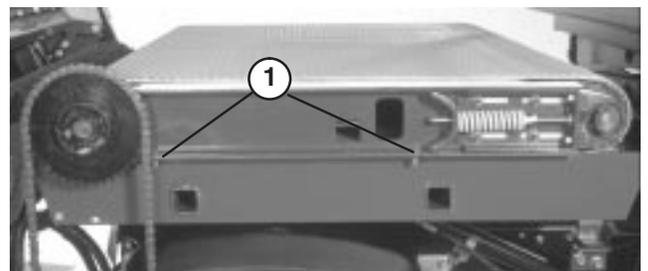

Figure 27
6. Loosen (2) capscrews, washers and nut, on right side of machine, securing slider bed to frame (Fig. 27). Make sure fasteners are loose enough to allow slider bed to be tipped.